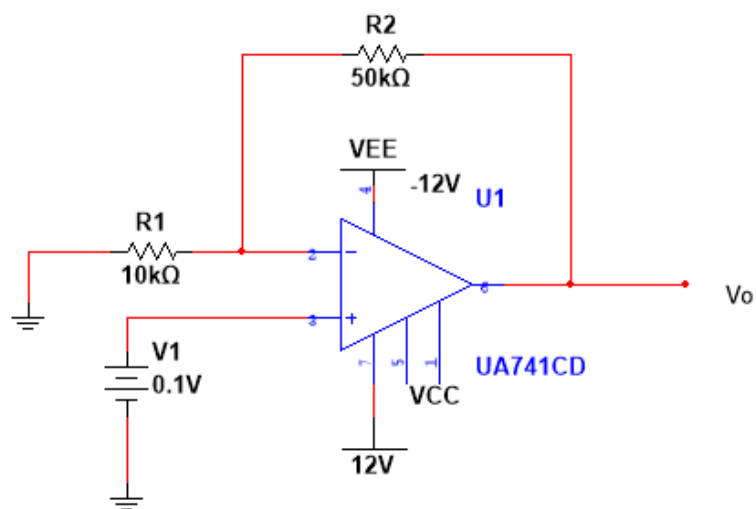

Fig 1.3: Op-amp as non-inverting DC amplifier
2. The circuit is set-up as shown in figure 1.3. The supply voltage $\pm V_{CC}$ is set at $\pm 14V$.